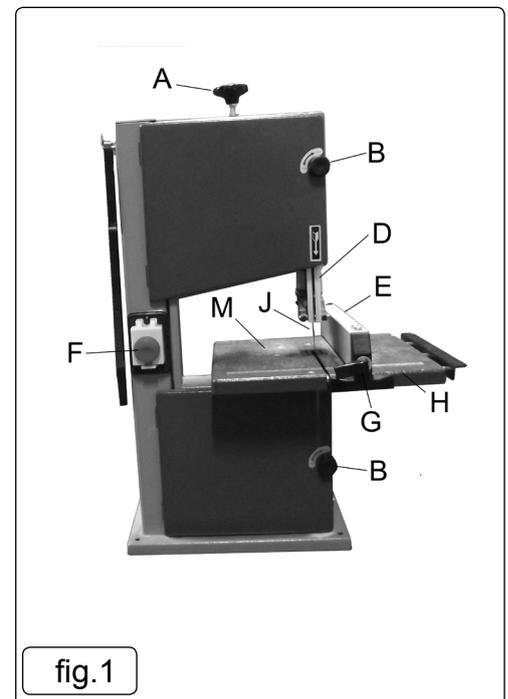
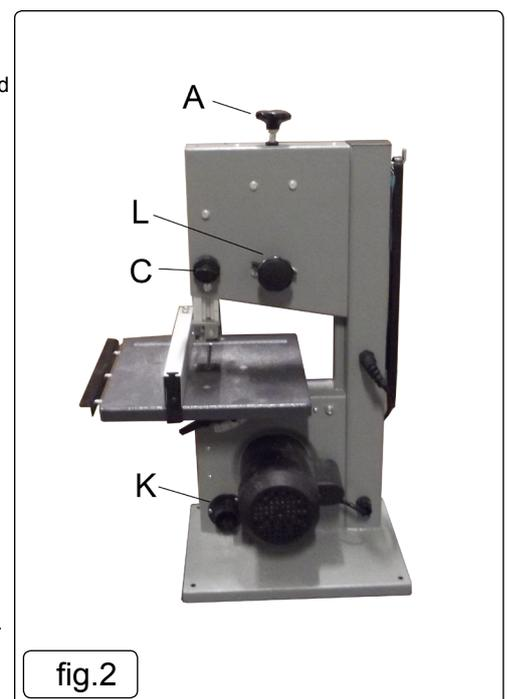

fig.1
fig.2
### MAIN FEATURES (fig.1 / fig.2)
Carefully place worktable (fig.1.M) onto its supporting base, whilst sliding saw blade through its slot in the table. Fix to base with three bolts, nuts and washers supplied. Before finally tightening these, check that the table blade slot and saw blade are in line, set correctly and then tighten all fixings. Using a square backed up to the saw blade, check that the worktable is square to the saw blade, if any adjustment is needed slacken the two knobs underneath the worktable near the angle scale, set table to correct angle, tighten the two knobs and then adjust the nut and bolt underneath the rear of worktable so that the worktable is just resting on the bolt head. Secure bracket across the saw blade slot using two bolts and two plastic knobs.
5.3.2. If adjustment is needed, turn the tracking knob (fig.2.L) whilst continuing to turn the upper blade wheel. Note the effect on the tracking and continue to turn tracking knob until tracking is correct.
Loosen the locking knob and turn the adjustment knob (fig.2.C) to lower the guide to required position. Tighten locking knob.
- 5.9.1. The fence (fig.1.E) is mounted on the table side guide (fig.1.H).
5.9.2. To reposition or remove the fence, push up locking handle (fig.1.G). To refit the fence, slide onto work table from the front or back as required. Push down handle (fig.1.G) to lock when fence is in required position.